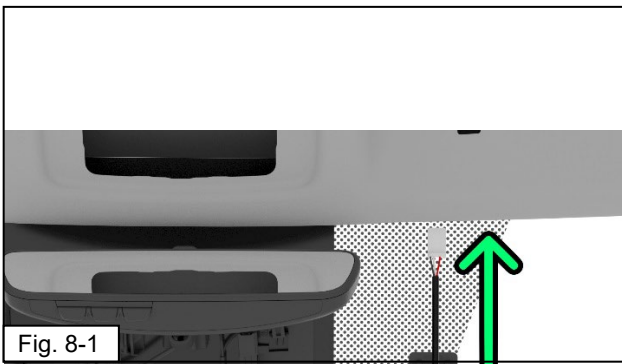

Fig. 8-1
- (a) From the Passenger side of the vehicle, feed the Dashcam's pigtail harness up into the headliner, directly above the Dashcam mounting plate fixed to the windshield. Take care not to crease the headliner in the process. (Fig. 8-1)